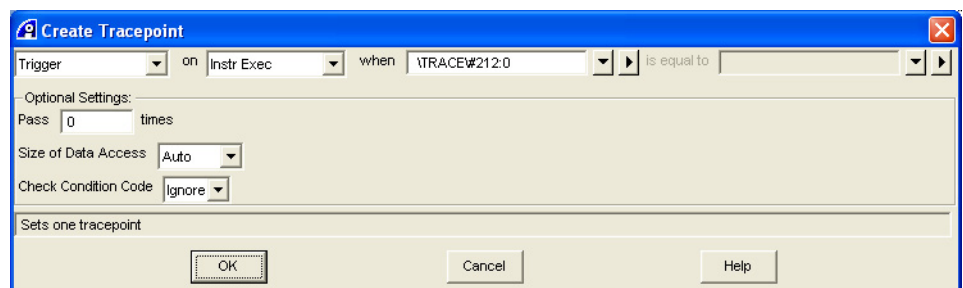

Figure 7-7 Create Tracepoint dialog box
2. Select **Create Tracepoint...** from the context menu to open the Create Tracepoint dialog box. Figure 7-7 shows an example: